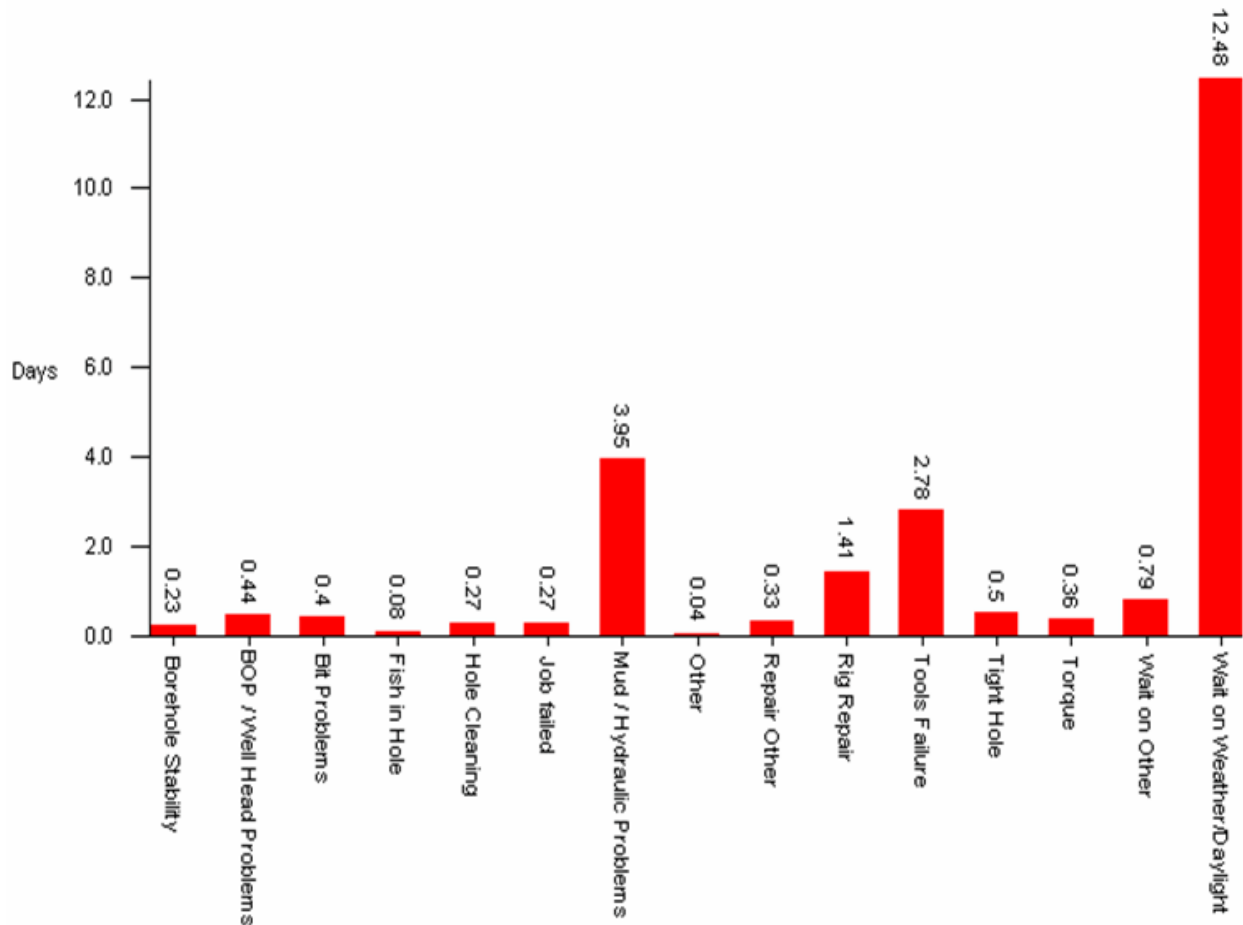

Figure 15. Analysis of Trouble Time
**Figure 15** summarizes overall trouble time on this Hot Ice No. 1 well, with weather being the most problematic lost time event (as to be expected) at nearly 12.5 days, followed by drilling fluid/solids control problems at 4 days and tool failures at 3 days. Total lost time was about 24 days, half of which were weather-related.